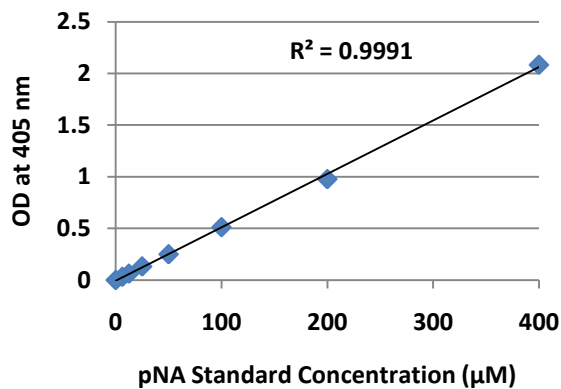

Fig. 2: pNA Standard Curve
- The chart in **Figure 2** illustrates typical OD values resulting from serial dilutions of the **pNA Standard** included in this kit.
- **Optical Density (OD)** readings from test samples can be compared against:
Note: Use the sample data in Figure 2 for reference only. Actual values may vary between runs and labs.